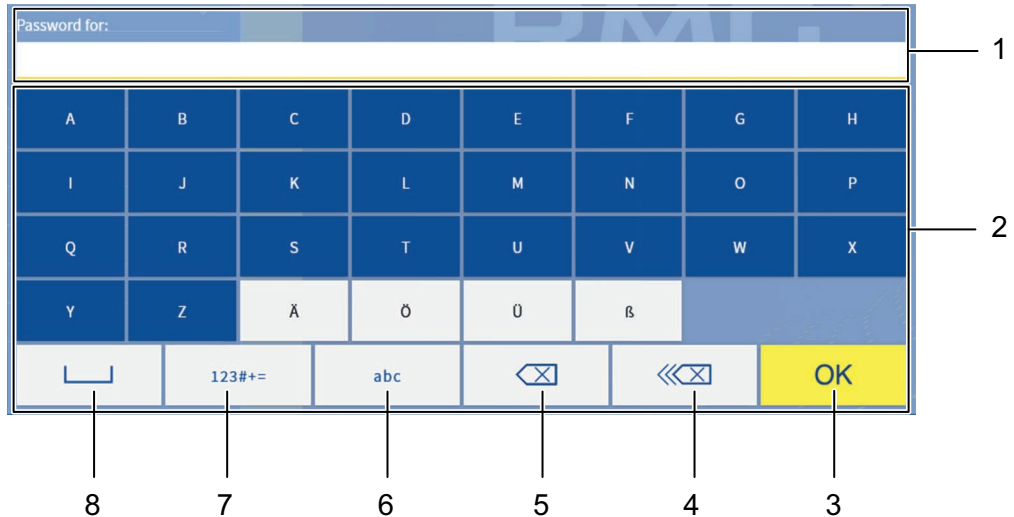

Fig. 49: Password input window
- ➔ An input window will open (cf. fig. 49).